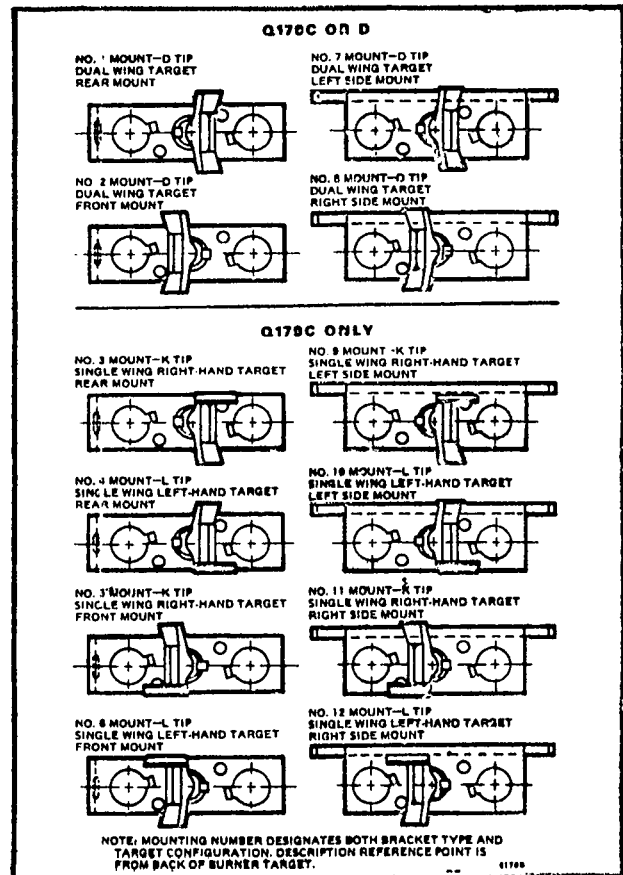
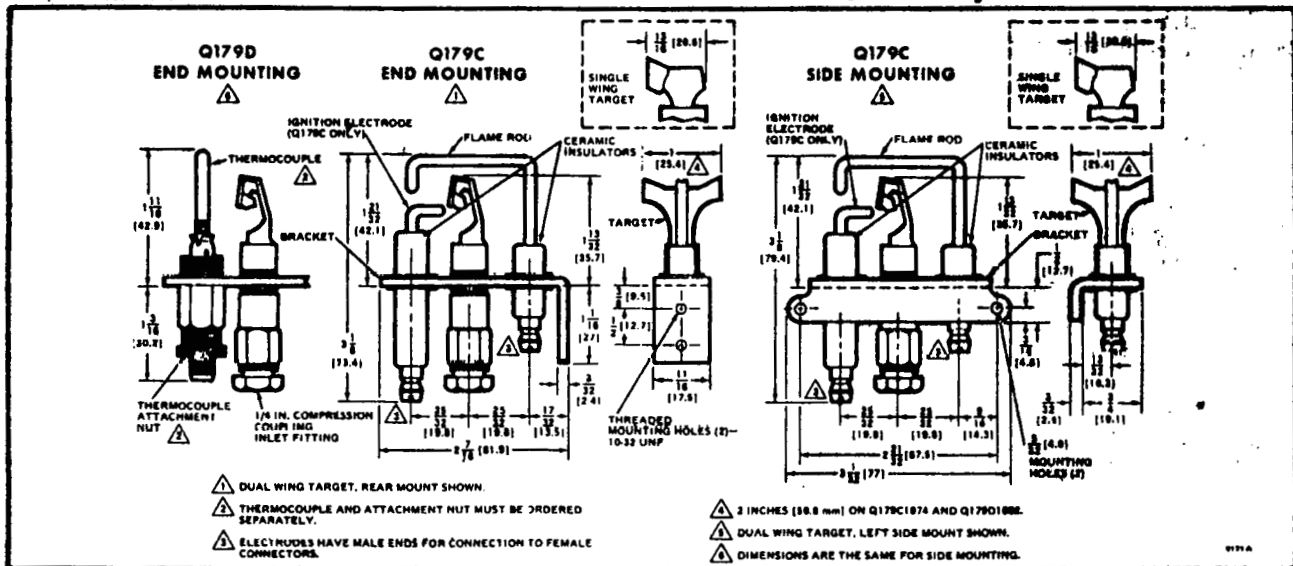

FIG. 1—MOUNTING OPTIONS AND BURNER TARGET CONFIGURATIONS.
FIG. 2—APPROXIMATE MOUNTING DIMENSIONS, IN INCHES [MILLIMETRES IN BRACKETS], AND ARRANGEMENT OF PARTS.
**MOUNTING:** See Fig. 1 for mounting options and burner target configurations. See Fig. 2 for mounting dimensions.
**BURNER:** Primary aerated. Stainless steel target provides correct flame ground. Correctly positioned flame electrode (and ignition electrode with Q179C) are furnished with each burner. The pilot burner has 3 target configurations—dual wing, single wing right-hand, and single wing left-hand (Fig. 1). Single wing targets are for use with Q179C only.
**MOUNTING DIMENSIONS:** See Fig. 2.